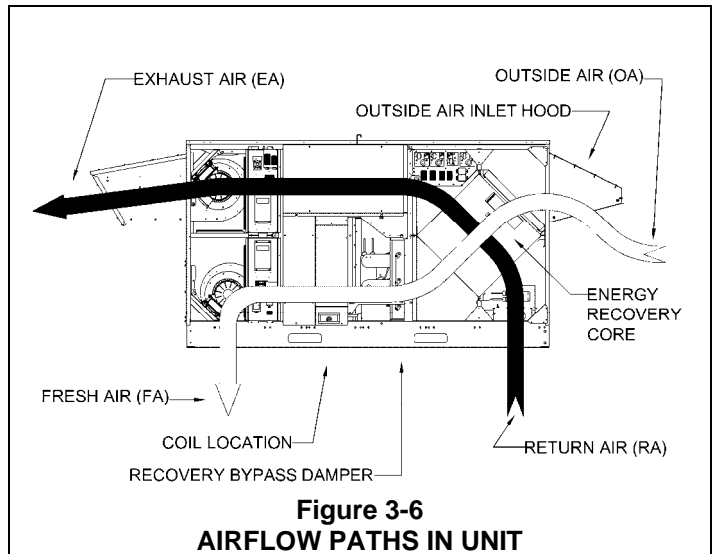

Figure 3-6
Outside Air (OA) pass through the Outside Air Inlet Hood, entering the top right hand compartment of the unit. It passes through the energy exchange core or the bypass passage. The **Fresh Air (FA)** then flows through the coil, if present, and exits the blower and unit at the bottom left hand compartment. The **Return Air (RA)** inside the building enters the bottom right hand compartment of the unit and flows through the energy exchange core. The **Exhaust Air (EA)** then exits the blower and unit at the top left hand compartment. See Figure 3-6.